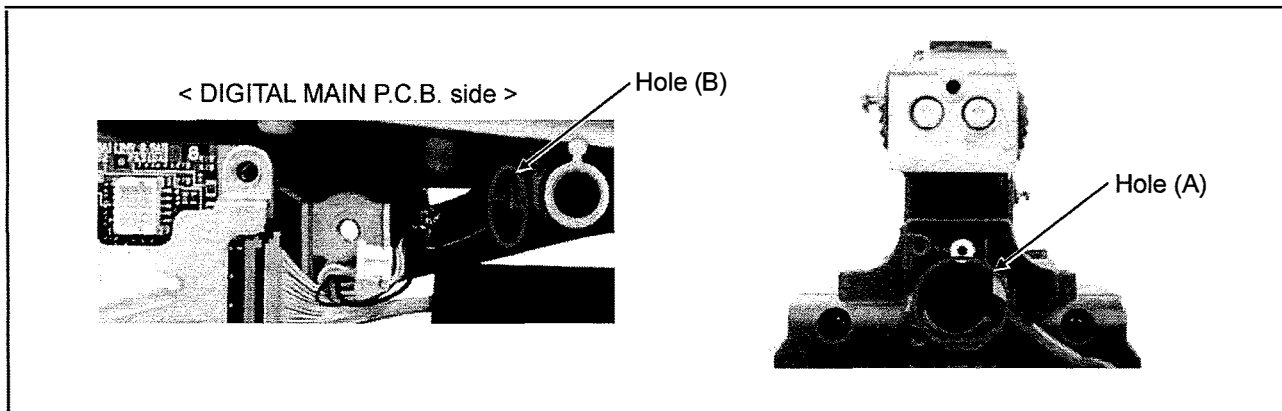

Figure 10-4
9. Remove the cable passed through hole (A) and (B) shown in Figure 10-4 and remove the EVF Unit.